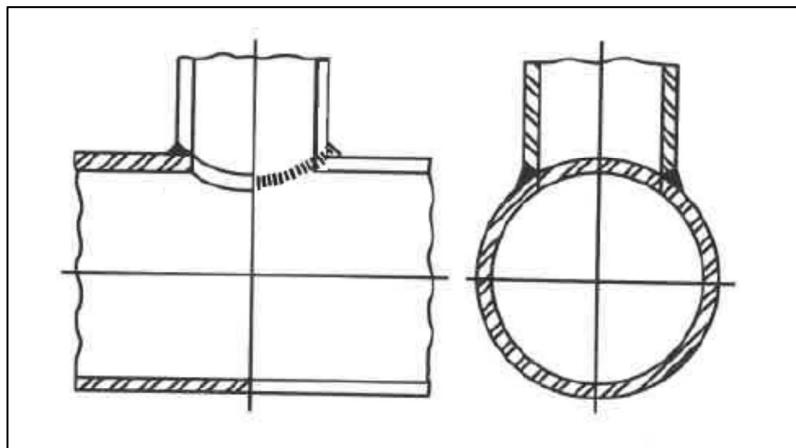
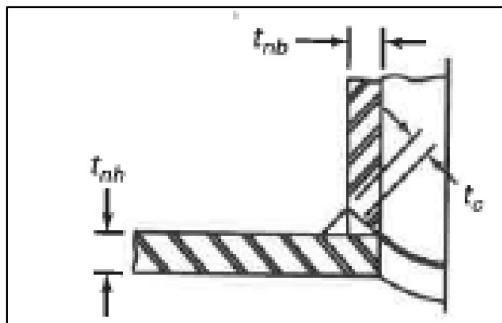

Figure 2
Figure 3
4. To complete, weld the Tap+Enclosure to the pipe using a qualified weld procedure. The weld profile should match Figure 2. It must be a complete joint penetration weld with a fillet weld reinforcing weld that matches Figure 3 where T_c is the minimum of $\frac{1}{4}$ " or $0.7 \times T_{min}$. T_{min} is the smaller of wall thickness of the pipeline (T_{nh}) or the wall thickness Tap+Enclosure (T_{nb}).